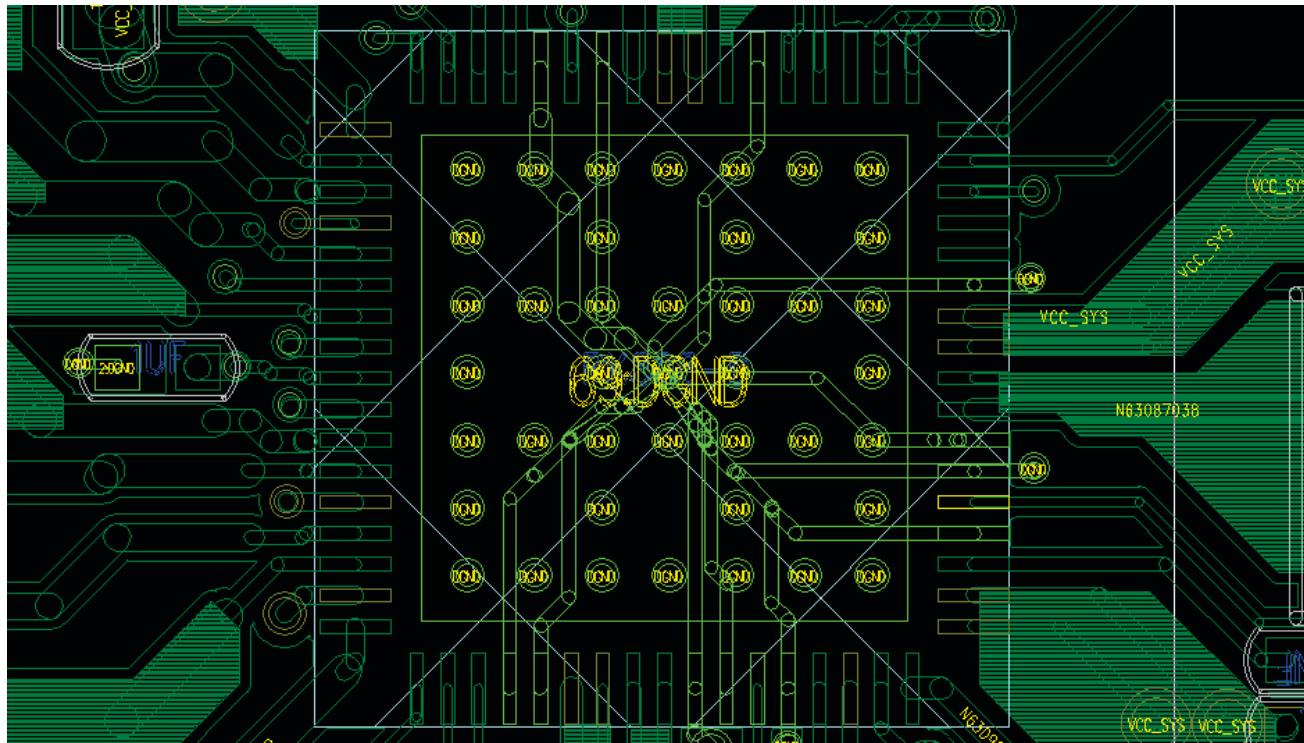

Figure 4-60 PMIC EPAD Vias
- The 10mR current sampling resistor of RK818-3 should be placed close to battery connector. The SNSN / SNSP signals should be routed according to differential pair's rules, no impedance requirements. It is important to note that since the SNSN is a negative side of the 10mR resistor, the OR resistor connected to the SNSN can not be directly connected to another GND and grounded via the ground end of the 10mR resistor (Shown as Figure 4-60).